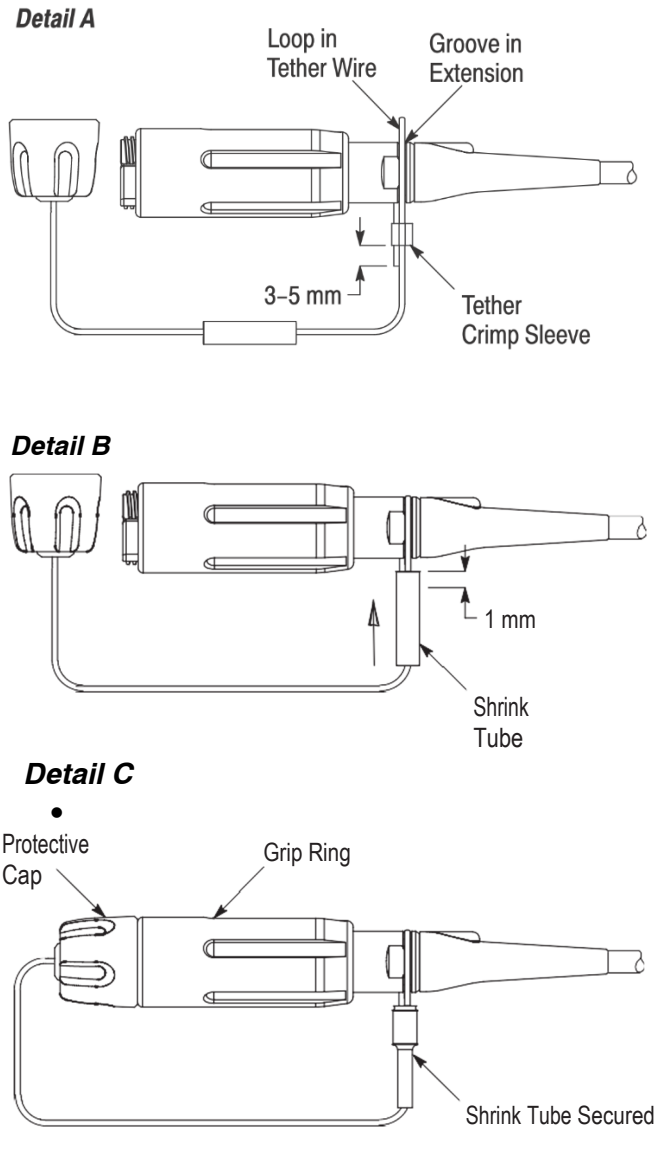

Figure 16
1. Loop the tether wire around the groove in the extension, and feed the end of the tether wire into the open end of the tether crimp sleeve. Pull approximately 3 to 5 mm of the tether wire through the tether crimp sleeve. See Figure 16, Detail A.
3. Slide the shrink tube over the tether crimp sleeve until it hangs over the top of the crimp sleeve by 1 mm. See Figure 16, Detail B.
5. Thread the protective cap onto the grip ring, then finger-tighten the cap as shown in Figure 16, Detail C.